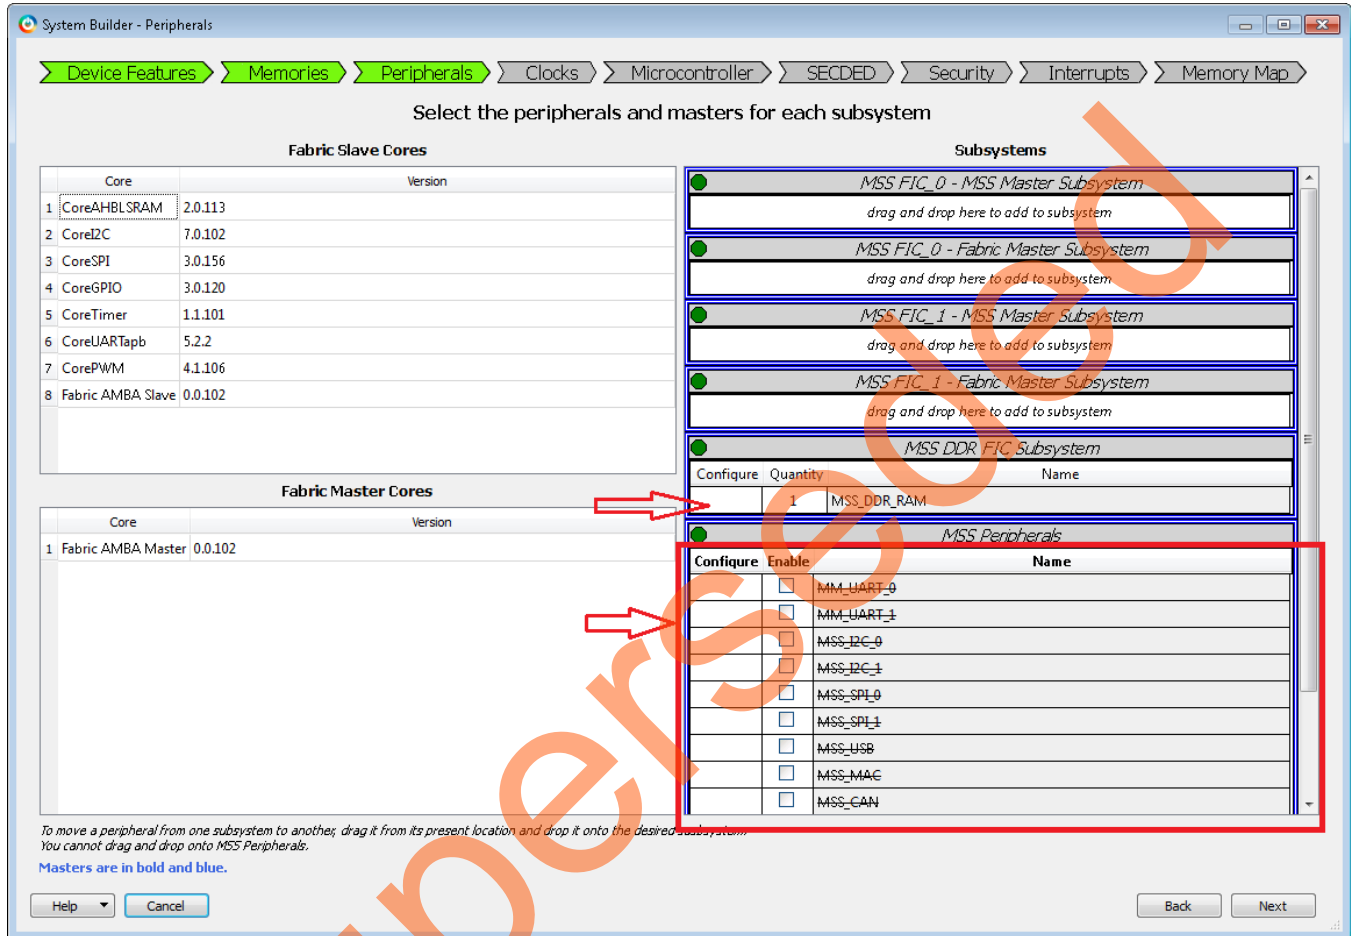

Figure 6.System Builder Configurator – Select Peripherals Page
9. Select **Next**, System Builder- **Select Peripherals** page is displayed, as shown in Figure 6.
This tutorial will not use any MSS peripherals, therefore clear all the **MSS Peripherals** (marked on Figure 6 below).
Since the system is using an MSS DDR (on the first page of the System Builder), the MSS_DDR_RAM is shown under the MSS DDR FIC Subsystem, as shown in Figure 6.